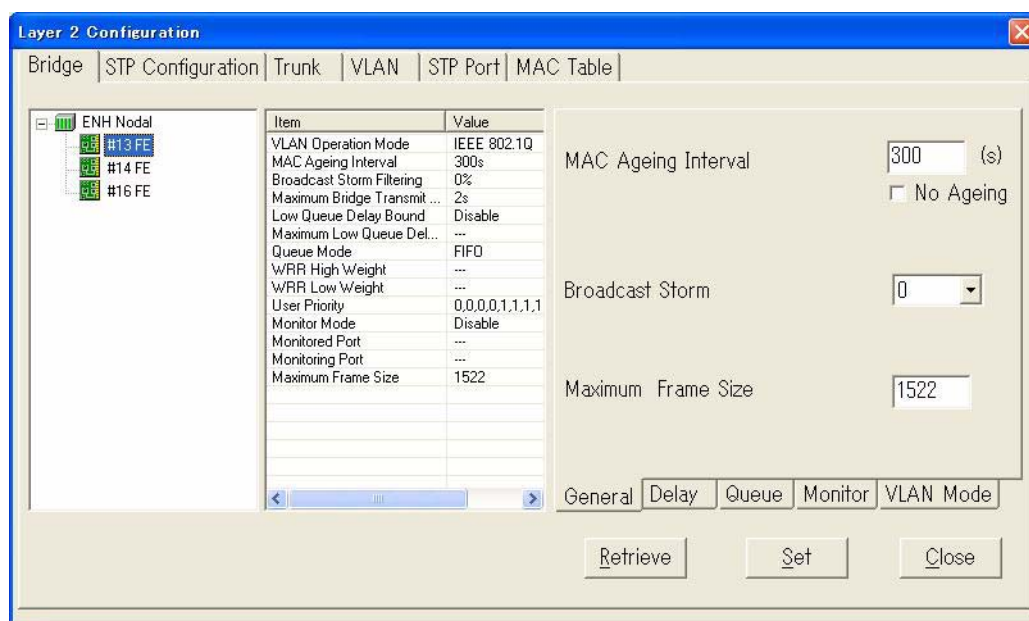

Fig. 4-4-42 Layer 2 Configuration Dialog Box
- 3 Select **Layer 2 Configuration** from the **LAN-Interface** menu to open the **Layer 2 Configuration** dialog box. The Layer 2 Configuration dialog box shown in *Fig. 4-4-42* appears:
- 1 See *Fig. 4-4-42*, select **Bridge** attribute page on the top of window.
- 4 In order to set the **MAC Ageing Interval**, **Broadcast Storm Filtering** and **Maximum Frame Size**, select **General** tab in the bottom of window. *Fig. 4-4-42* appears.